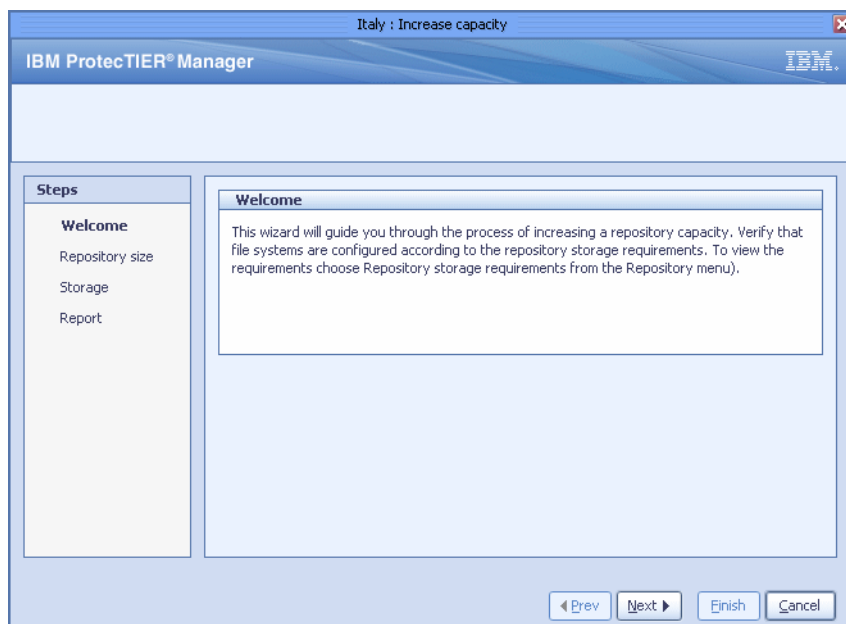

Figure 10-5 Increase capacity: Welcome window
3. From the menu bar, select **Repository** → **Increase capacity**. The Increase capacity wizard Welcome window opens (Figure 10-5).